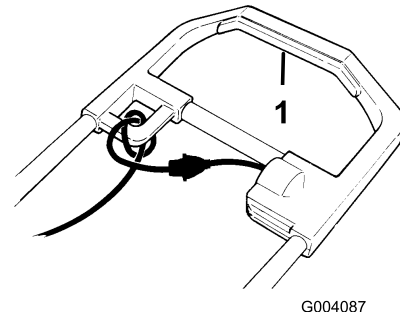

Figure 9
1. To start the rotor, squeeze the control bar (Figure 9).